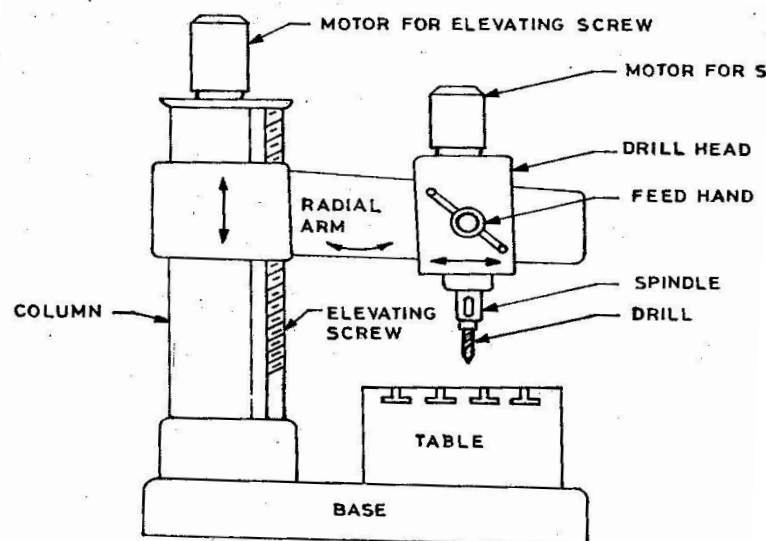

Fig. 3 Radial Drilling Machine
3. Radial Drilling Machine (Fig. 3)
- The column and radial drilling machine supports the radial arm, drill head and motor. Fig.3 shows the line sketch of radial drilling machine.